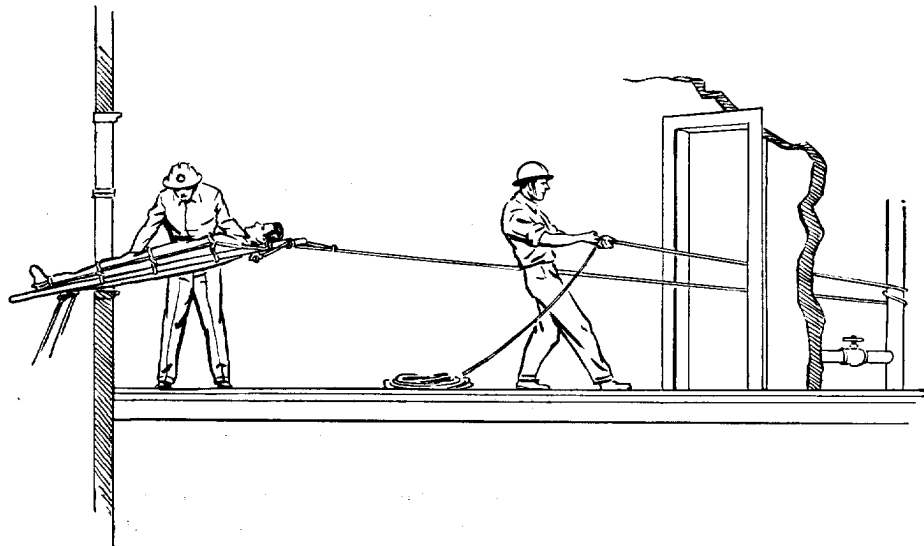

FIGURE 29.—Close-to-wall vertical lower.
- (1) Prepare jib with whip or block and tackle.
- (2) Put assembled jib in place, including lowering line with figure-eight as stopper.
- (3) Prepare and attach stretcher to stoppered end of lowering line. Be sure that lowering anchor is snubbed with at least one full turn and properly secured for weight on line. Put guide rope on stretcher.
- (4) Take up slack and clear stretcher from window.
- (5) Pay out line slowly. To prevent override or bind at point of snubbing, keep about six inches between feedline and loadline. (See snubbing, figure 29.)